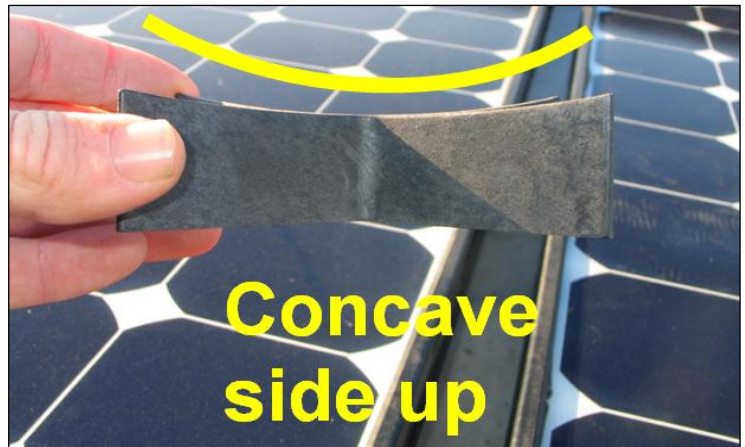

Fig. 74
- Horizontally, concave side up (Fig. 74).